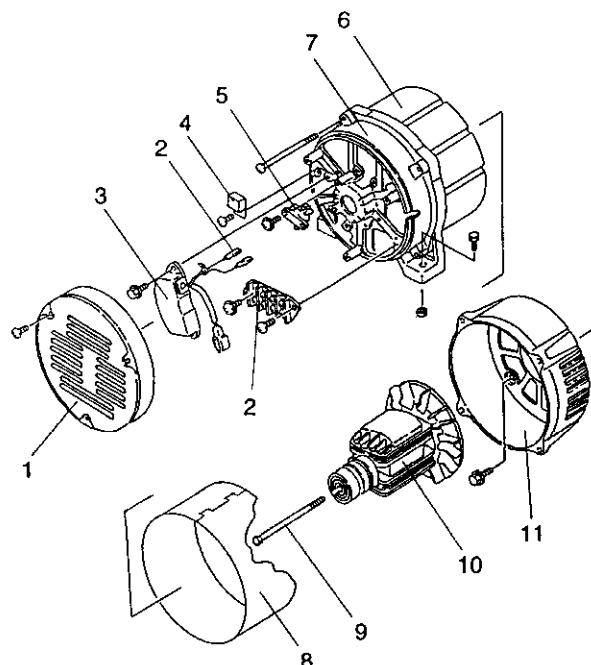

Fig. 5.2.4 Generator unit components
- ① Remove control panel 1 from panel box 2.
- ② Disconnect all terminals 3 connected to respective electrical devices.
- ③ Disconnect wiring harness 4 from panel box 2.
- Fig. 5.2.4 illustrates the scope of work and parts configuration.
- ① Remove cover 1.
- ② Disconnect terminal 2 for each electrical equipment.
- ③ Remove AVR 3 and rectifier 4.
- ④ Remove brush holder 5 together with the brush.
- ⑤ Remove stator 6 together with rear housing 7 and band 8.
- ⑥ Remove through bolt 9 by loosening it.